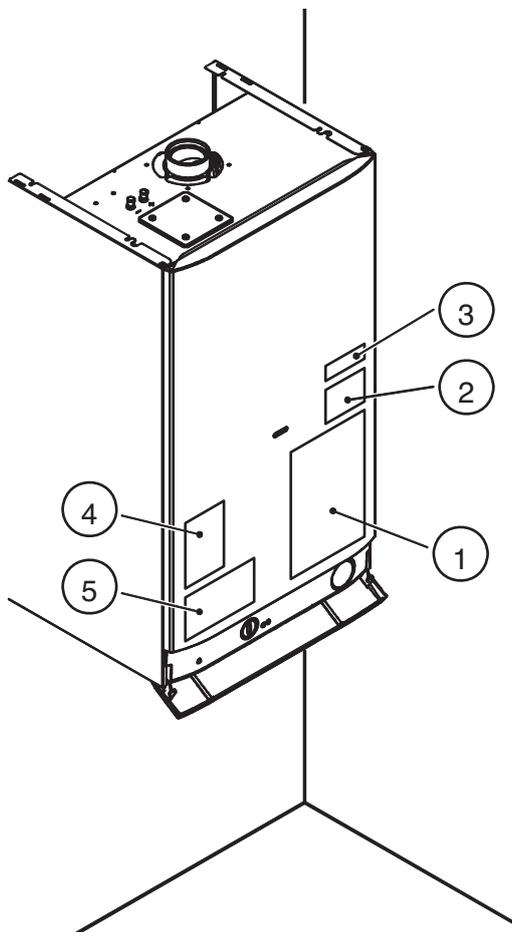

Figure 15.10
**Warning:** The installation is not complete unless labels supplied are placed on the boiler as shown in Figure 15.10.
All the labels supplied with the boiler are numbered for reference. According to Figure 15.10 place all the labels on the boiler. Use label numbered as 1 (already installed in the front panel) to begin the placement in the correct way.